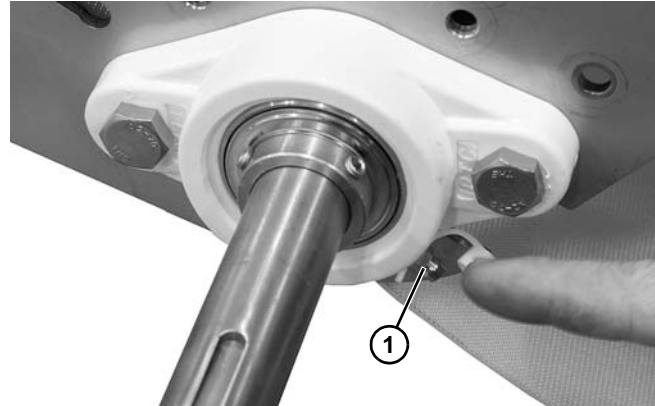

Figure 116
When replacing the bearing housing, make sure that the grease fitting (**Figure 116, item 1**) is facing down.